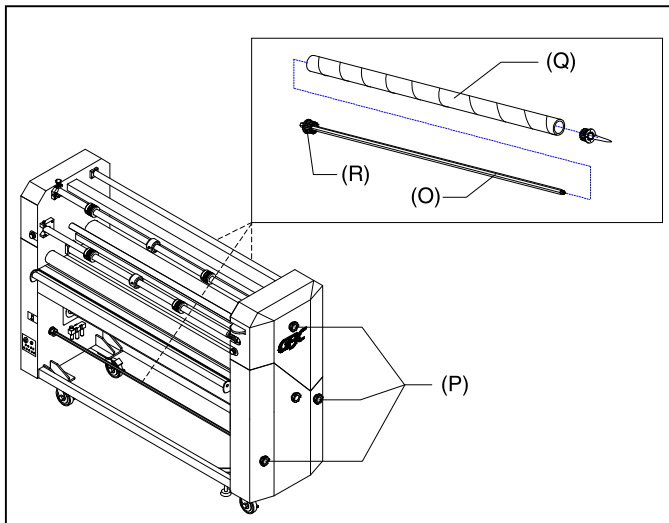

Fig. 17
O. REWIND SHAFT: (Figure 17) The rewind shaft holds the rewind tube on the machine.
P. REWIND BRAKE: (Figure 17) Located on the left side from the front operating position.
Q. REWIND TUBE: (Figure 17) The two rewind tubes located at the front of the machine are used to rewind release liners. The one located at the rear of the machine is used to rewind the finished product.
R. REWIND ADAPTORS: (Figure 17) Hold and lock the rewind tube on the rewind shafts to prevent side to side shifting.